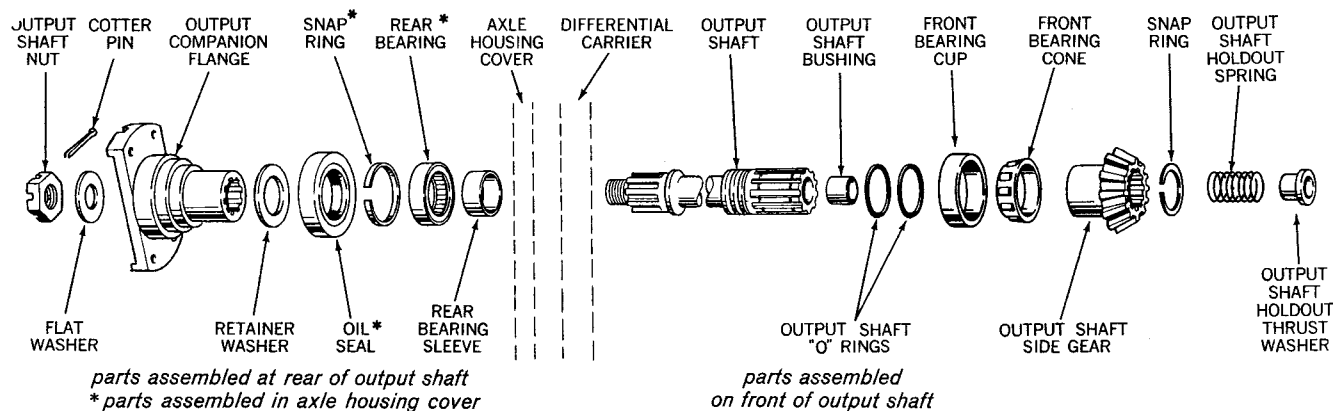

Fig. 67. Exploded View of Output Shaft and Axle Housing Cover Parts
1. Before installing axle housing cover, assemble cover as follows (see fig. 67): Press output shaft rear bearing in cover. Install snap ring to secure bearing. Press oil seal in same opening in axle housing cover.